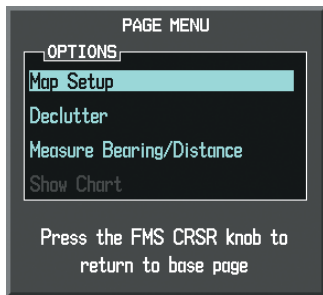

Figure 6-101 Navigation Map Page Menu
- 3) With Map Setup highlighted, press the **ENT** Key (Figure 6-101).